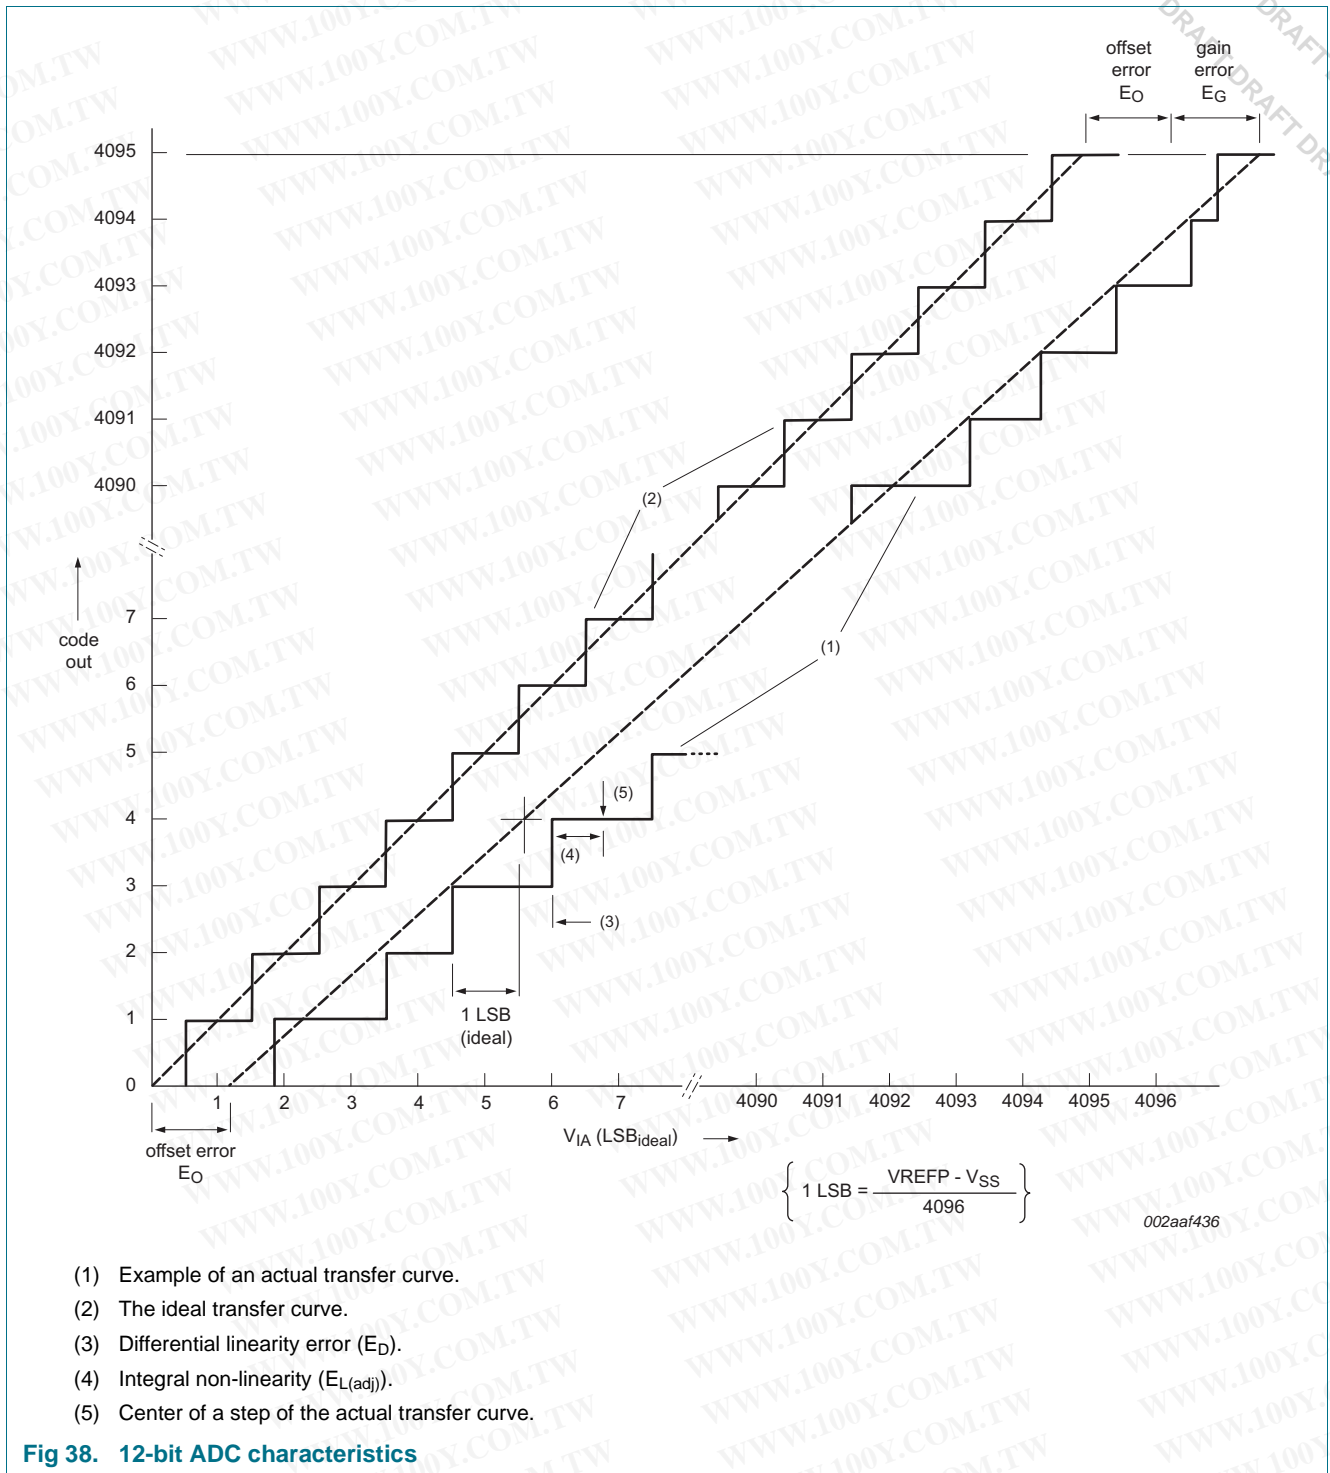

Fig 38. 12-bit ADC characteristics
- [5] The differential linearity error (E_D) is the difference between the actual step width and the ideal step width. See Figure 38.
- [6] The integral non-linearity ($E_{L(adj)}$) is the peak difference between the center of the steps of the actual and the ideal transfer curve after appropriate adjustment of gain and offset errors. See Figure 38.
- [7] The offset error (E_O) is the absolute difference between the straight line which fits the actual curve and the straight line which fits the ideal curve. See Figure 38.
- [8] The full-scale error voltage or gain error (E_G) is the difference between the straight line fitting the actual transfer curve after removing offset error, and the straight line which fits the ideal transfer curve. See Figure 38.